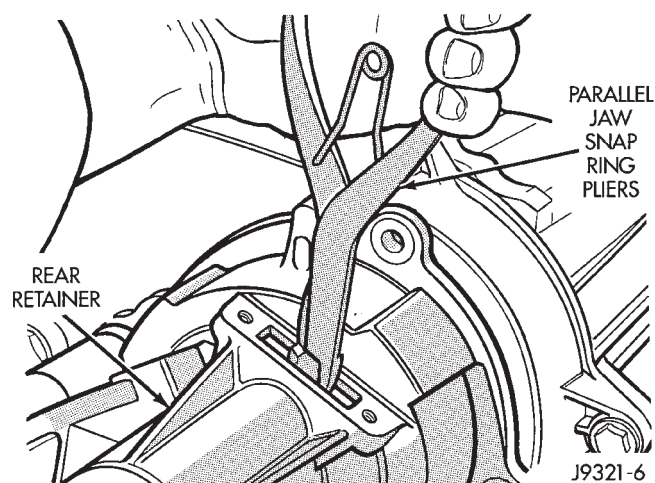
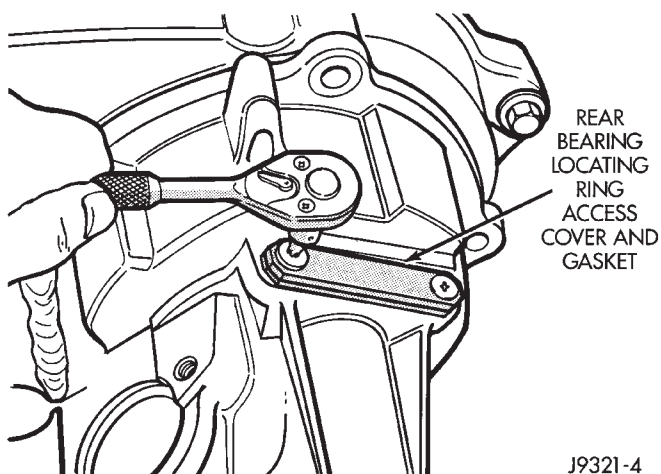

Fig. 65 Engaging Rear Bearing Locating Ring
Fig. 66 Installing Locating Ring Access Cover And Gasket
(45) Spread rear bearing locating ring and slide rear retainer into place on rear case (Fig. 65).
(46) Install and tighten rear retainer bolts to 27-34 N·m (20-25 ft. lbs.).
(47) Install locating ring access cover and gasket (Fig. 66). Tighten plate attaching screws to 10 N·m (85 in. lbs.) torque.